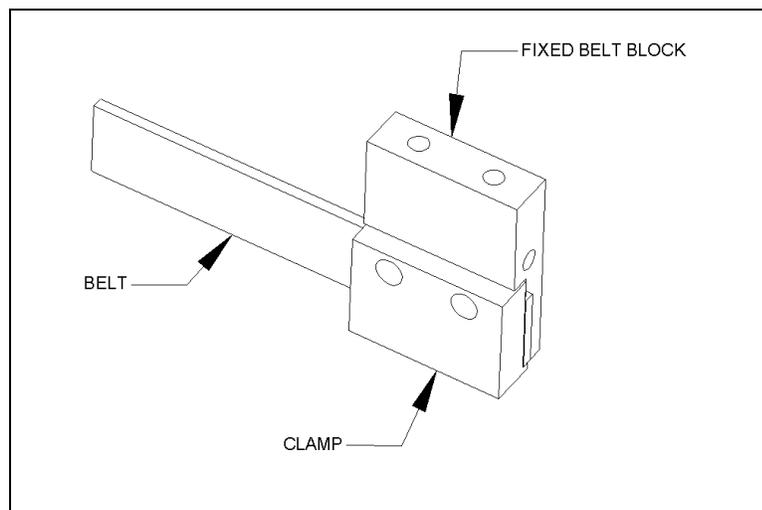

Figure 7-24 Placing the Fixed Belt Block on the Motor End of the Drive Belt
- 2 Fit the Fixed Belt Block (Part No. 04003300) and the Belt Clamp (Part No. 204012400) to the motor end of the belt using two M3 x 8 Cap Head Screws and Loctite 222 (Figure 7-24). Ensure that the belt covers all three teeth in the belt block.